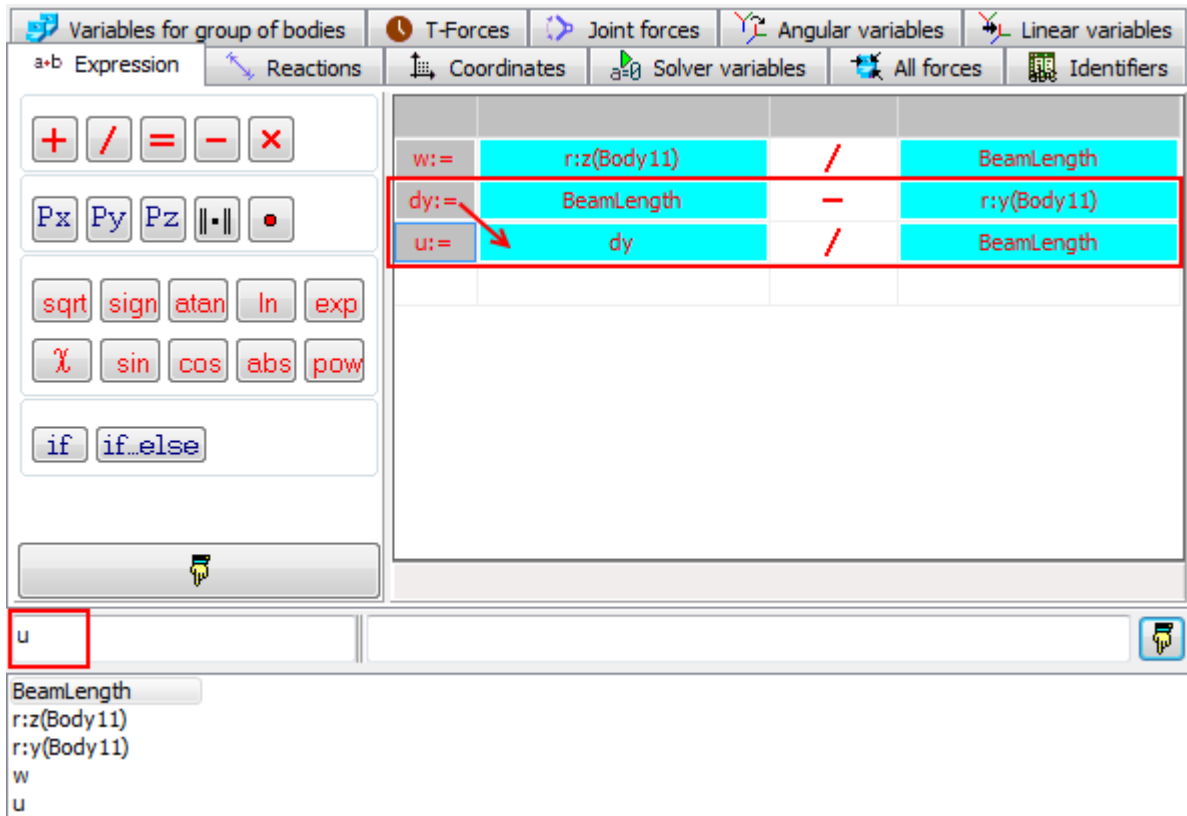

Figure 3.20. Creating  $u/L$  variable
- use mouse to move variables  $r:y(\text{Body11})$  and  $\text{BeamLength}$  in the operator fields, Figure 3.20.